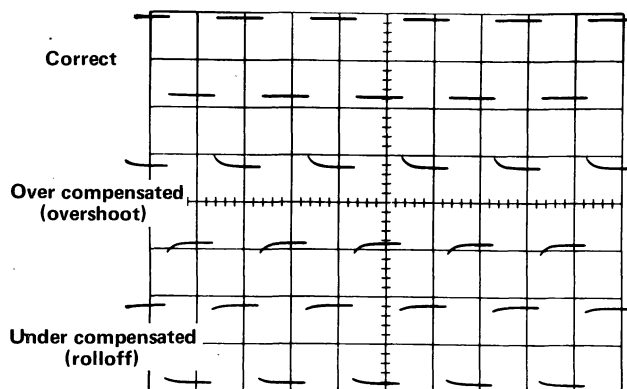

Fig. 2-4. Probe Compensation.
b. Touch the probe tip to the CAL OUT jack and check the display for proper probe compensation (see Fig. 2-4).
c. If necessary, adjust the probe compensation for the best front corner response to the square waves as shown in Fig. 2-4.